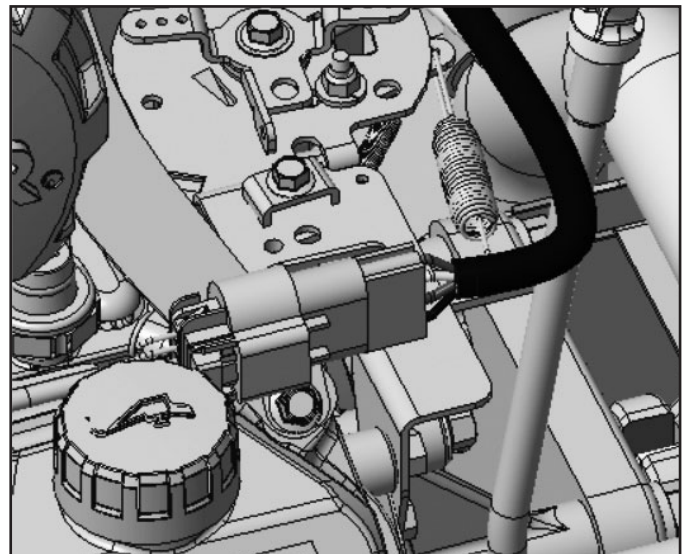

Figure 47: Throttle adjustment screw
2. Loosen screw and adjust cable to desired throttle travel. See **Figure 47** for location.